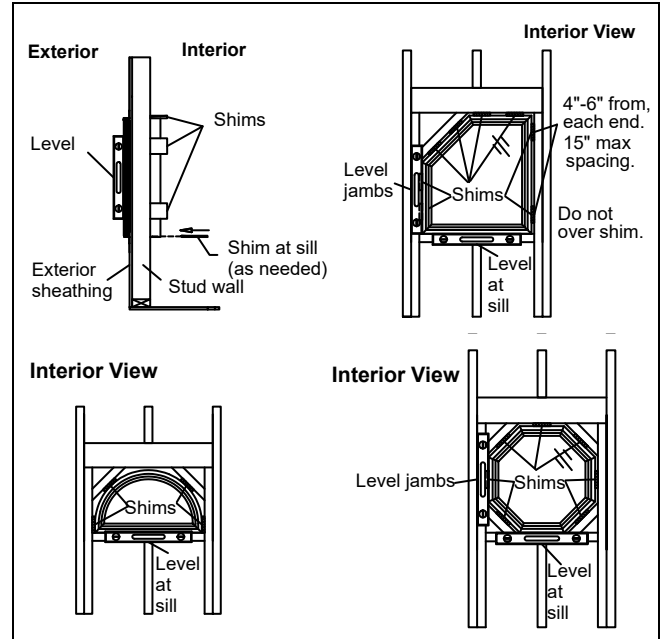

Figure 5
2. Center the unit in the opening and level the sill. Depending on interior or exterior installation, press unit against interior sash stop or blind stop. See figure 5. For units without interior or exterior stops, install stop or align with predetermined plane. Shim and fasten side jambs approximately 2" (51) up from the sill.